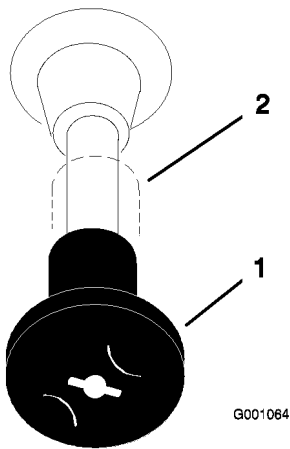

Figure 12
4. Move the choke control to the on position before starting a cold engine (Figure 12).
7. After the engine starts, move the choke to off (Figure 12). If the engine stalls or hesitates, move the choke back to on for a few seconds, then move the throttle lever to desired setting. Repeat this as required.